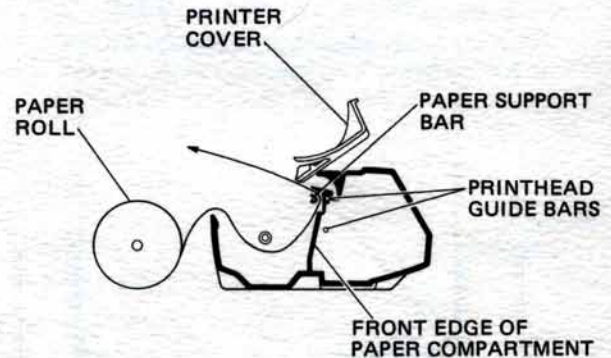

Figure 2-4 Insert Paper between Paper Support Bar and Upper Printhead Guide Bar
3. Guide the end of the paper into the paper compartment, up the front edge of the compartment, and up between the paper support bar and the upper printhead guide bar, as shown in Figure 2-4. The end of the paper should emerge below the printer cover, into the paper compartment.